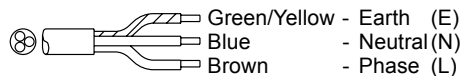

Fig. 2
- (fig. 2) For 230V 1 phase with plug socket.
- (fig. 2) For 230V 1 phase (3-core cable).
The following remarks apply to figure 2:
The three core main cable (fig. 2) has the following wiring code: